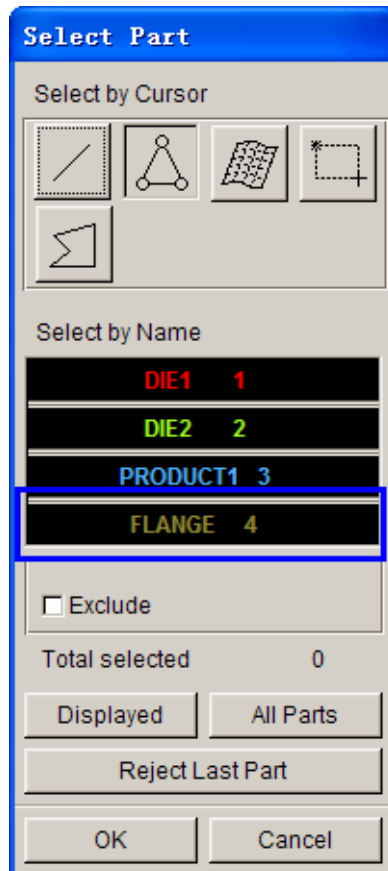

Figure 1.21: Select Part dialog box
- 1) Select FLANGE part as the corresponding part of sheet tool in the Select Part dialogue box. See figure 1.21.